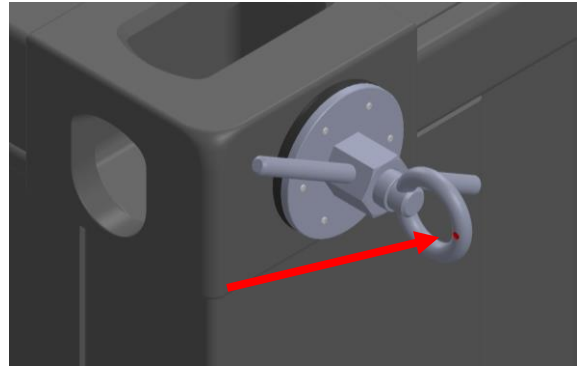

Fig. 10 NPK locked
- Turn the lock by 90° (fig. 9). When locked, the eye of the NPK is positioned vertically and the red dot position indicators are visible when looking from the side (not from the top or bottom of the container) – fig. 10..